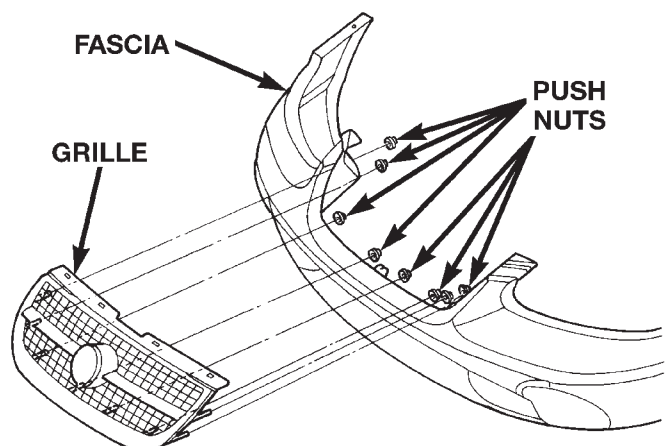

Fig. 1 Grille
- (1) Release hood latch and open hood.
- (2) Remove screws attaching grille to headlamp adapter assembly (Fig. 1).
- (3) Pull forward on grille slightly and remove clips holding grille to fascia.
- (4) Separate grille from vehicle.